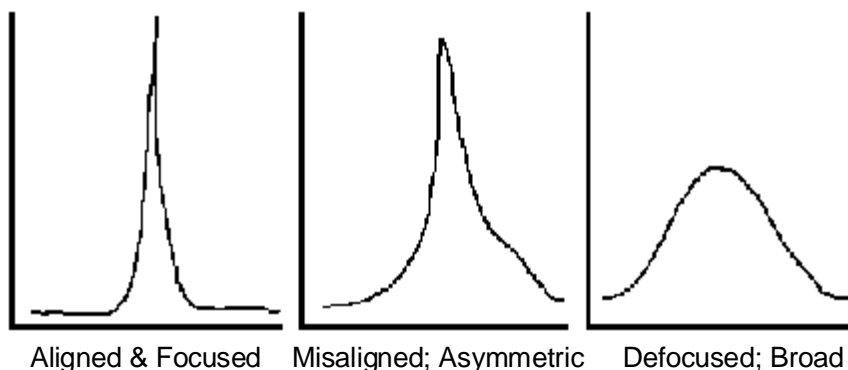

Figure 17: Examples of peaks during Alignment and Focusing
- 5) Observe the spectra. A focused, aligned CCD will provide a distinct symmetrical peak of large amplitude. The peak should be less than or equal to 5 pixels wide across the Full Width of Half the Maximum height (FWHM). Asymmetry of the peak is a sign that the slit image is not aligned to the pixel columns; diminished shape and magnitude are symptomatic of defocusing. (Figure 17)